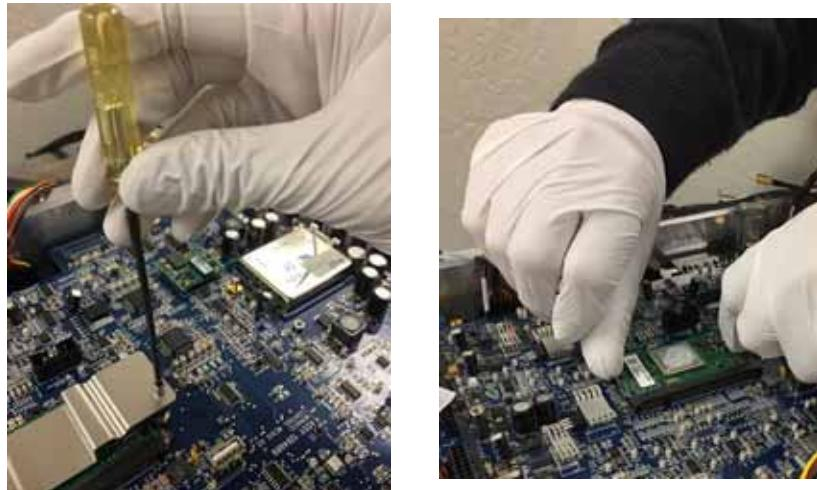

Figure 4.4-6. Removing the Toradex Module
16. Remove the Toradex Heat Sink and the Toradex module using a standard 3/32" hex key (note this is the only step that a non-metric, standard hex key is required). The heat sink stand-offs may need to be removed from the old headboard assembly and installed on the new board. See Figure 4.4-6 below. Put the module into an anti-static bag.